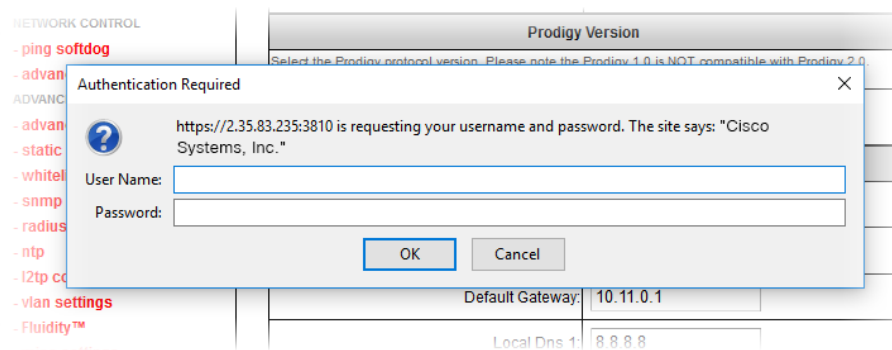

Figure 60. Web browser (Authentication Required dialog)
- The web browser will show the **Authentication Required** dialog (Figure 60 (page 110)). If needed, use the dialog to log in again.